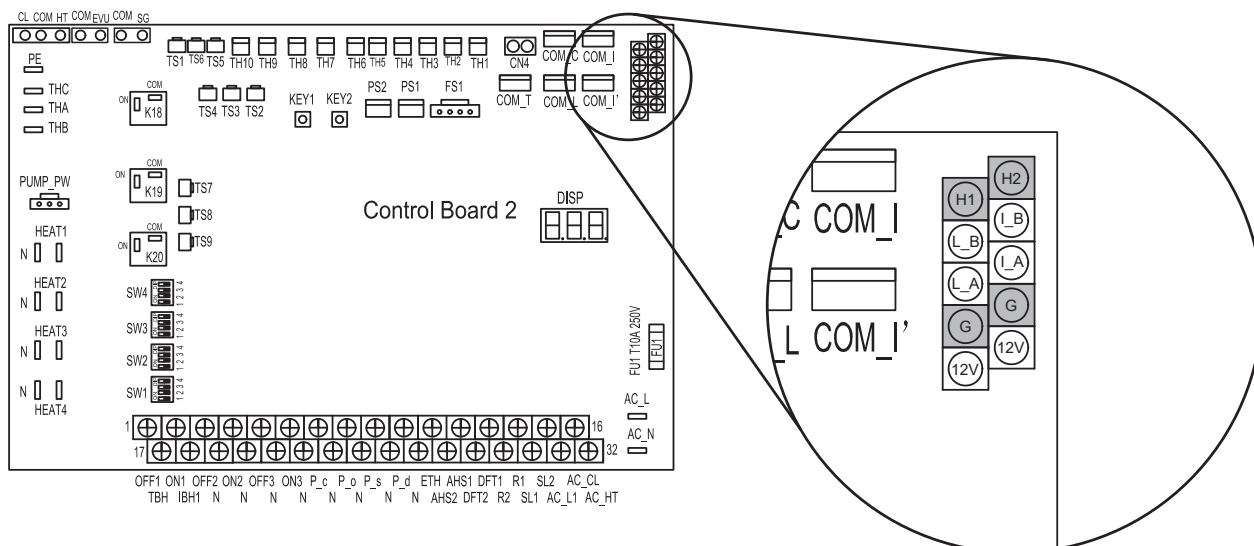

Figure 7-1: Hydraulic PCB U19 communication ports
5. Connect the modbus cable to the H1(B-) and H2(A+) and the shielding to an available ground (G) terminal on the Hydraulic PCB of the heat pump. Refer to Figure 7-1 and the caution below.
Cable shielding MUST only be connected to a ground connection on the heat pump PCB. Refer to Figure 7-1.